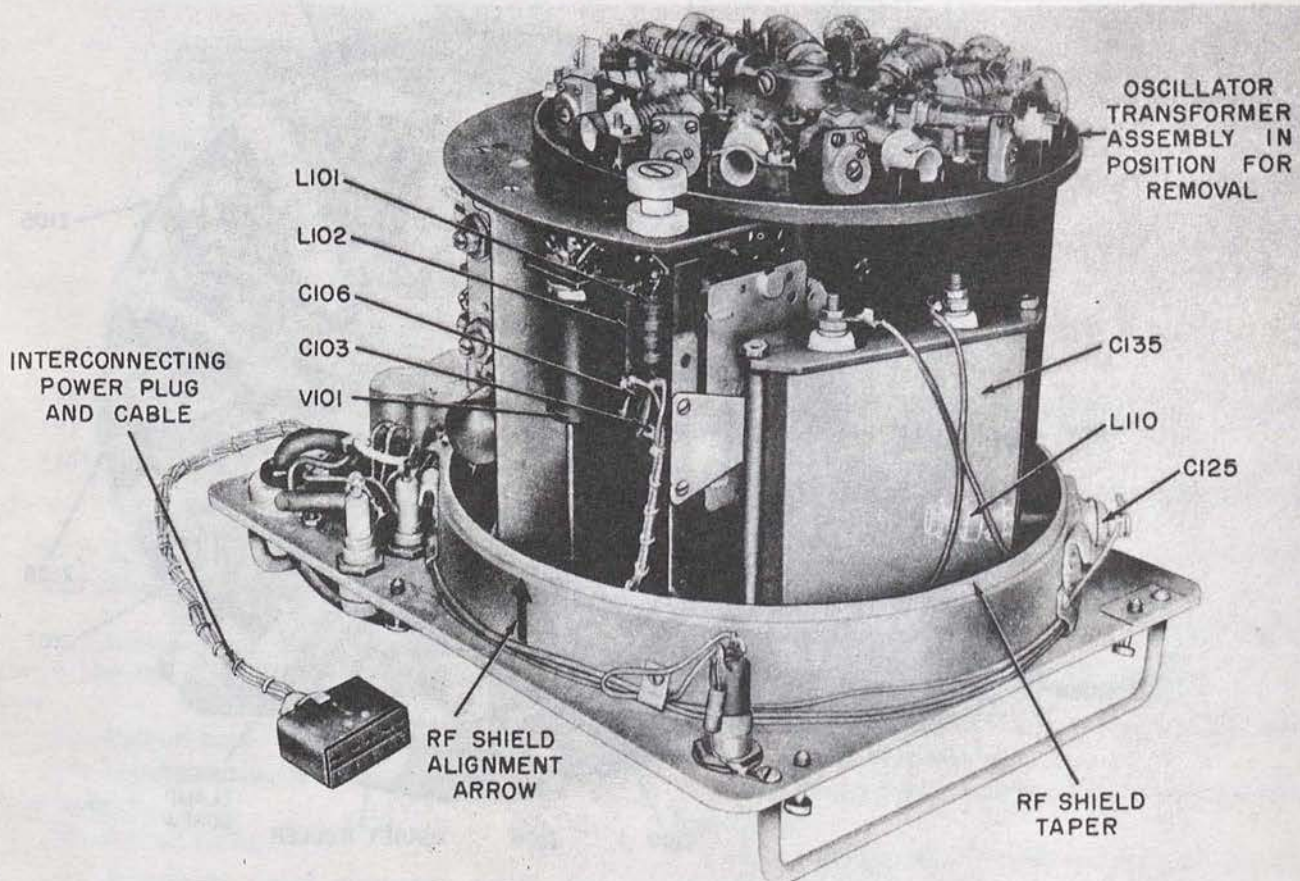

Figure 7-6. Bridge Assembly Components
When replacing the RF shield assembly be sure the red indicator line on the RF shield assembly lines up with red arrow on the front panel casting. The arrow is located below the RF oscillator tube V101. The RF shield assembly must not be tilted and the shield should fit snugly on the taper provided in the front panel. (See figure 7-6.) Failure to properly position the shield will prevent reassembly.
(1) Reassemble the turret assembly in reverse order of removal instructions. Observe the following additional instructions.
(2) Brace front panel of band switch knob to prevent movement. A block of wood between knob and surface of bench will suffice.
(3) Replace detent roller with narrow end of taper upward.
(4) Align band switch shaft with flat in turret assembly.
(5) Use a screwdriver to press detent roller into guide on the underside of turret casing.
12. REMOVAL OF OSCILLATOR TRANSFORMER ASSEMBLY. (See figures 7-6 and 7-7.)
(1) Remove the signal generator from its case. See paragraph 7.
(2) Remove RF shield assembly. See paragraph 8.
(3) Position the signal generator chassis face down and allow it to rest on the front panel handles.
(4) Rotate turret assembly so that desired oscillator sector assembly has its trimmer capacitor approximately above feed-thru capacitor C125. See figures 7-6 and 7-7.
(5) Remove the two holding nuts and catch two holding bolts which will drop down.
(6) Lift out oscillator sector assembly.
(See figures 7-6, 7-7, 7-8 and 7-9.)